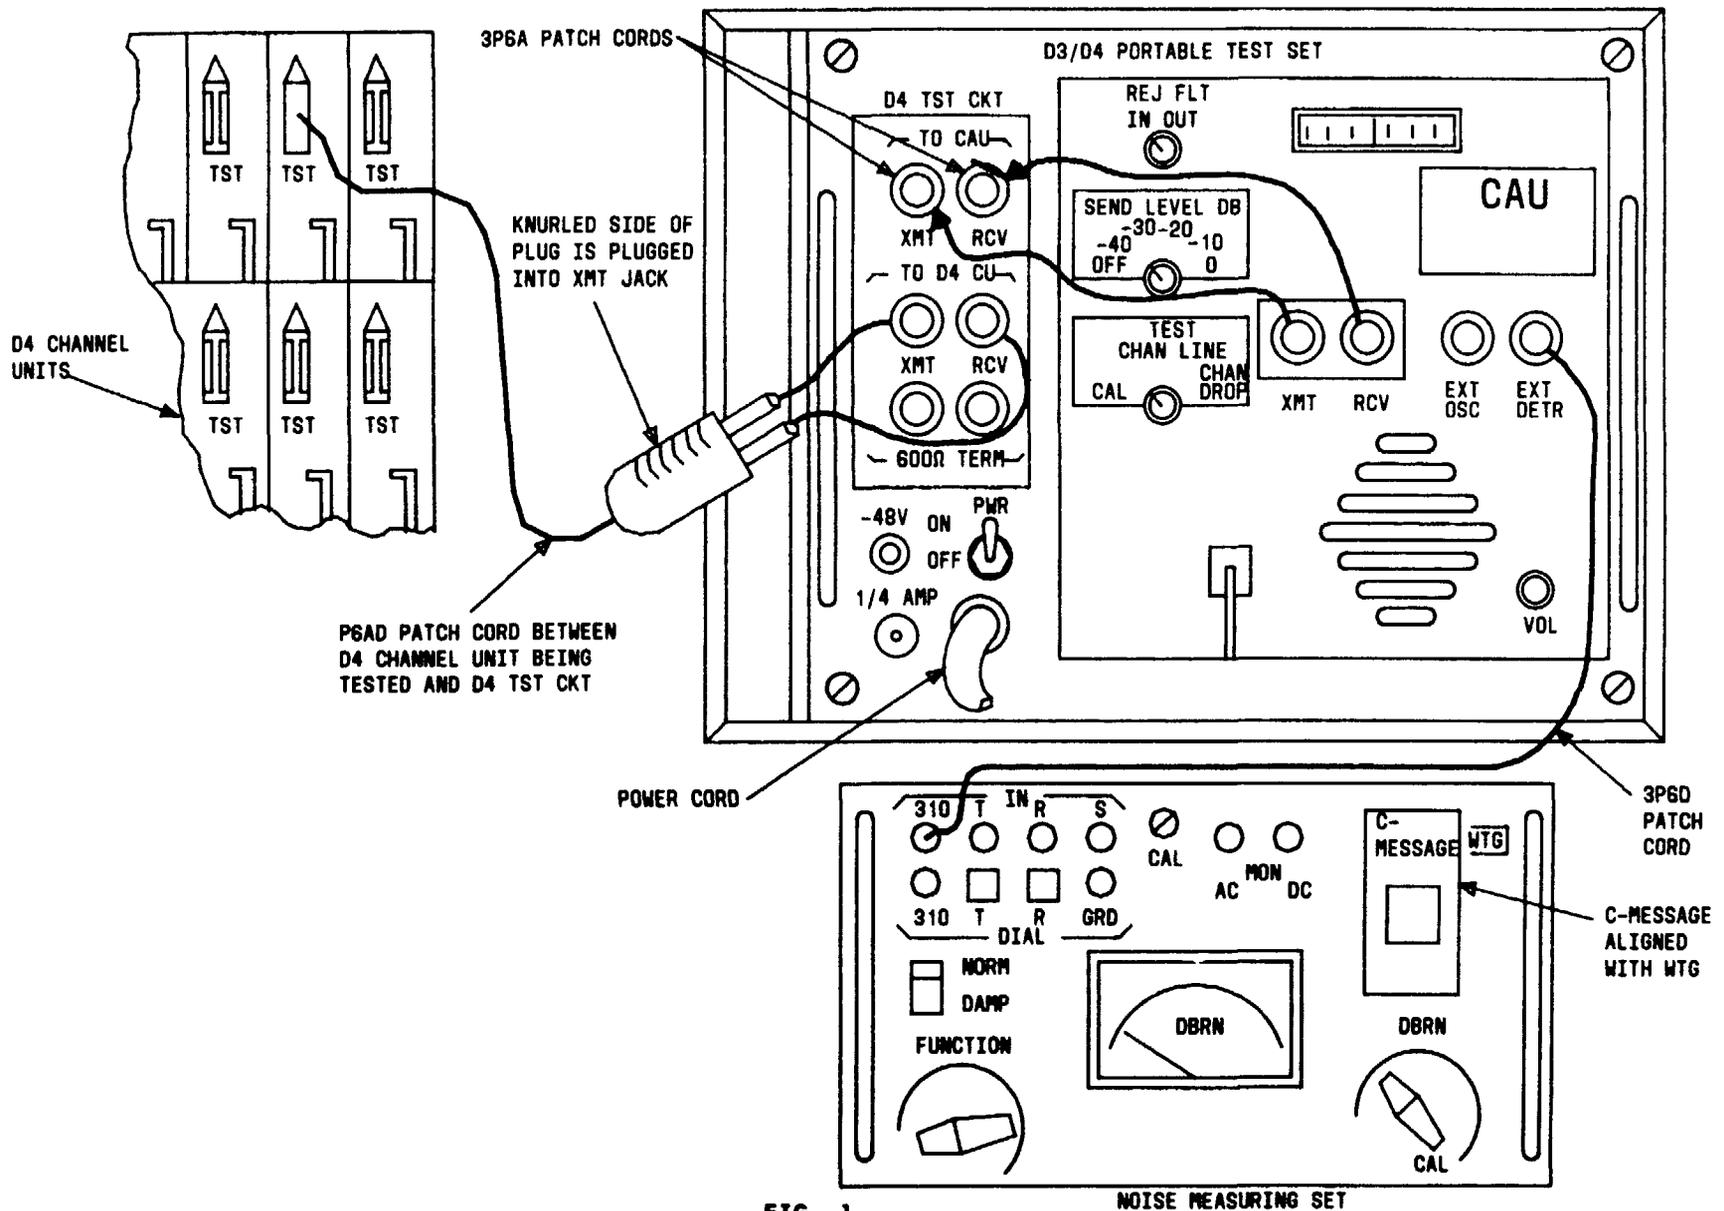

FIG. 1
Make test connections per FIG. 1. Verify far end has made test connections to same test channel. Verify D4 bank meets noise requirement of 23 dBrnc or less
- [5] Make test connections per FIG. 1 and